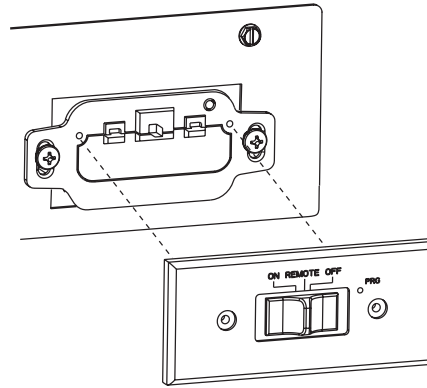

Figure 8.3
- Push the slider switch into the OFF position. Remove the Receiver cover plate screws and pry the cover plate with slider switch off of the battery box. See fig. 8.3..